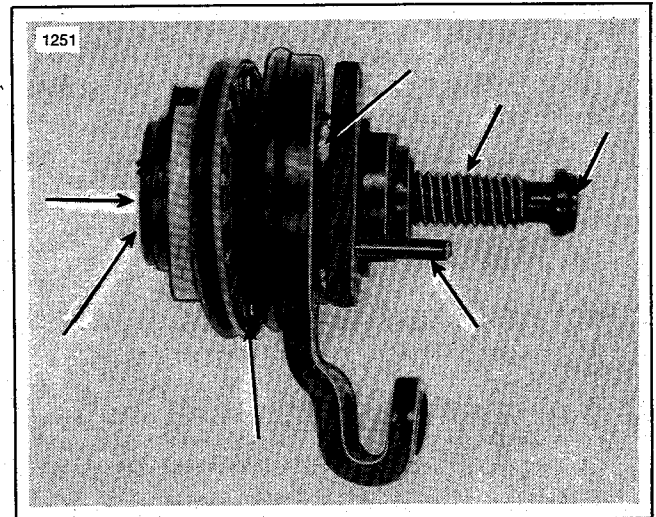

Figure 2-21. Lube These Points
- Clean ratchet gear assembly and lubricate at points shown in Figure 2-21 with all purpose grease.